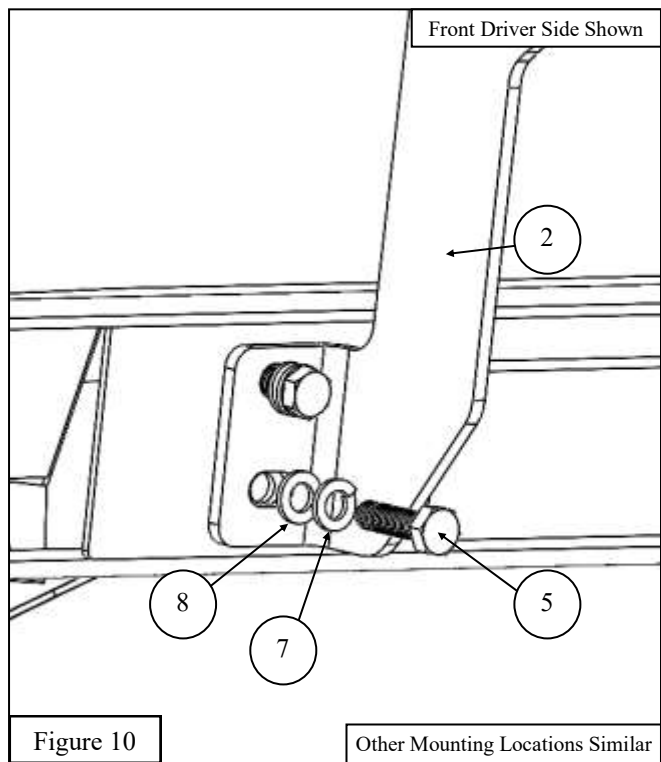

Figure 10
8. Use the supplied M8 Hardware (Items 5, 7-8) to loosely secure the HDX Drop Step (Item 1) to the corresponding Mounting Brackets. See **Figure 10** for reference.